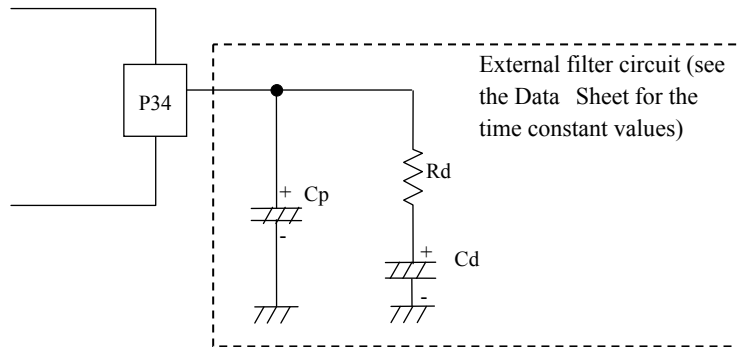

Figure 3.21.3 Internal PLL External Filter Circuit for the USB Interface
- <1> Set both VCONSTP and CMPSTP to 0 when generating the 48 MHz clock for USB using the internal PLL. In this case, set bit 4 (P34DDR) of P3DDR (FE4DH) and bit 4 (P34) of P3 (FE4CH) to 0. In addition, it is necessary to connect the external filter circuit shown in Figure 3.21.3 to the P34/UFILT pin.